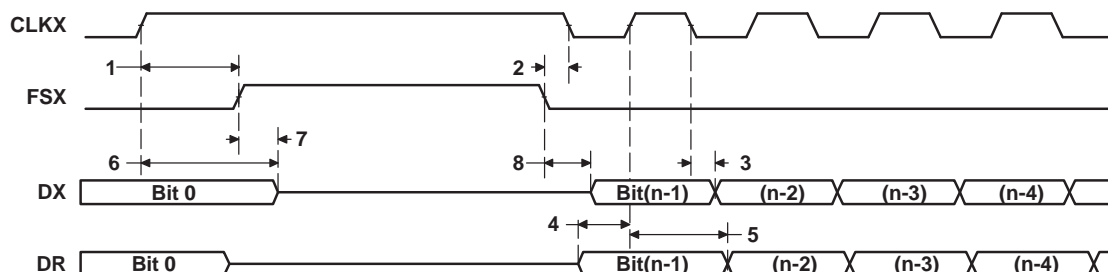

Figure 5-55. McBSP Timing as SPI Master or Slave: CLKSTP = 10b, CLKXP = 1
(see Figure 5-55)
(1) P = 1/CPU clock frequency in ns. For example, when running parts at 720 MHz, use P = 1.39 ns.
(2) For all SPI Slave modes, CLKG is programmed as 1/4 of the CPU clock by setting CLKSM = CLKGDV = 1.
Table 5-58. Switching Characteristics Over Recommended Operating Conditions for McBSP as SPI Master or Slave: CLKSTP = 10b, CLKXP = 1⁽¹⁾ (2) (see Figure 5-55)